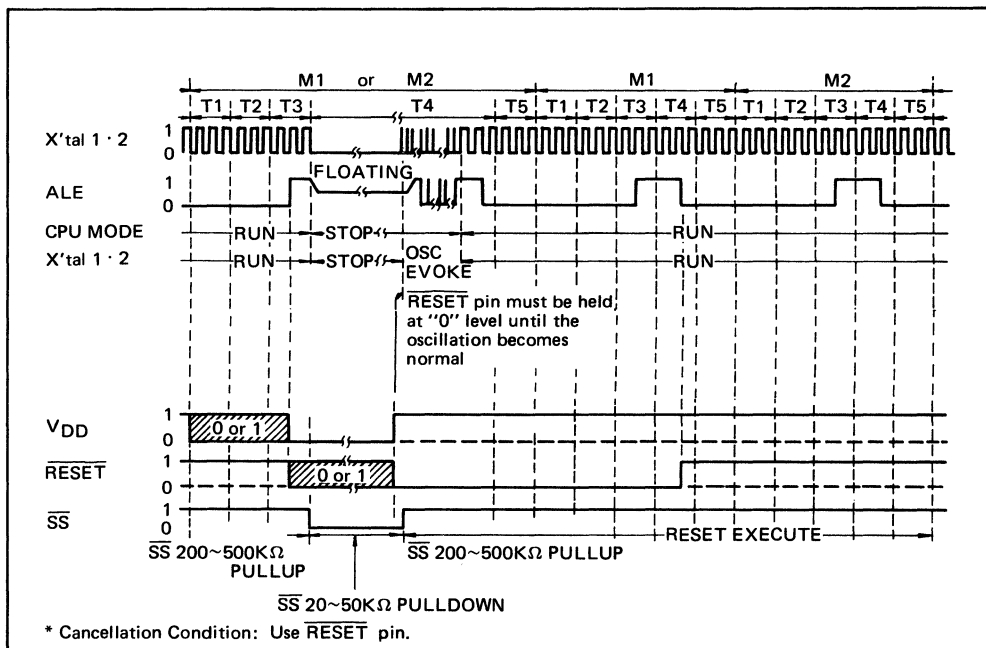

Fig. 4-5 Hardware Power-Down Mode Timing Chart
- (1) Use of  $\overline{\text{RESET}}$  pin
- The clock generator is activated and the CPU started up when a "1" level is applied to the  $V_{DD}$  pin while a "0" level is input to the  $\overline{\text{RESET}}$  pin. If this "0" level is kept applied to the  $\overline{\text{RESET}}$  pin until oscillation become stable, the CPU will be reset and will start executing from address 0. The timing chart is outlined in Fig. 4-5.
- (2) Use of the  $\overline{\text{INT}}$  pin during external interrupt enabled status (i.e. following execution of ENI instruction)